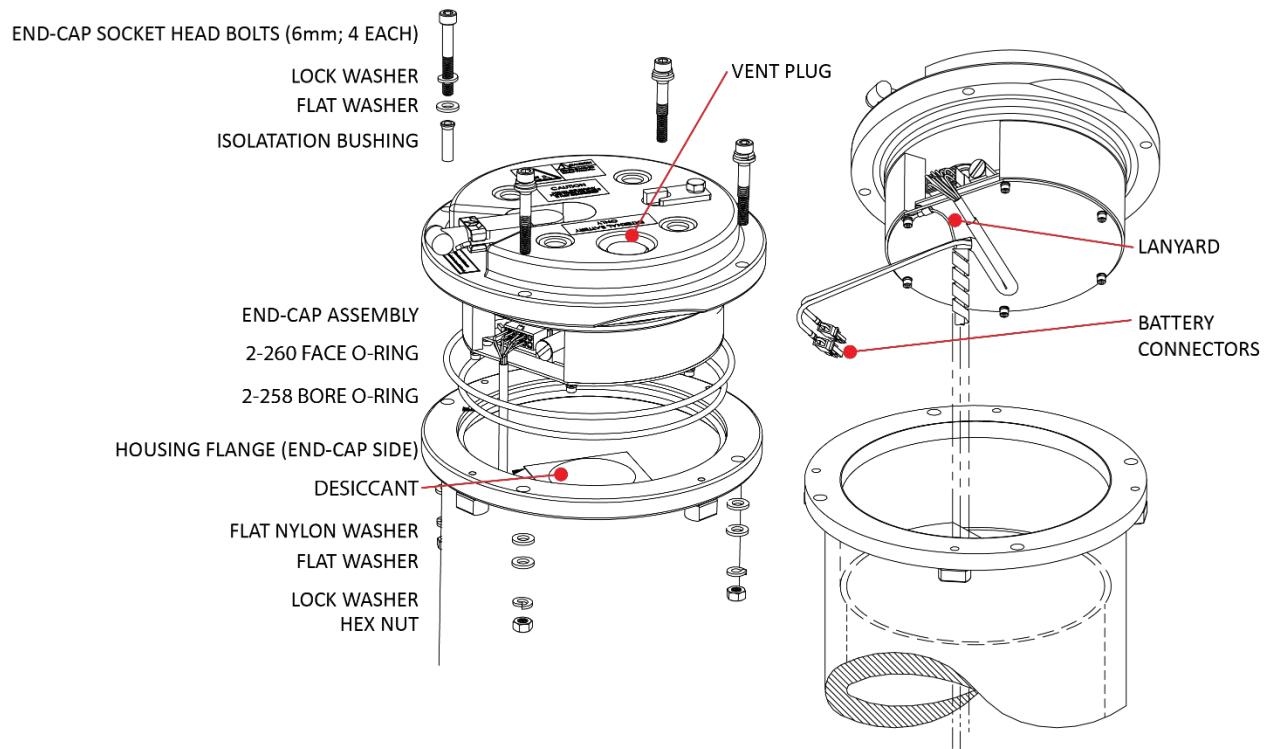

Figure 35. End-Cap Mounting Hardware
7. Examine the end-cap assembly nuts, bolts, and washers (6 mm) for corrosion; replace if necessary. Figure 35, page 72 shows the assembly order of the end-cap mounting hardware. All the hardware items are needed to seal the Long Ranger / QuarterMaster properly.